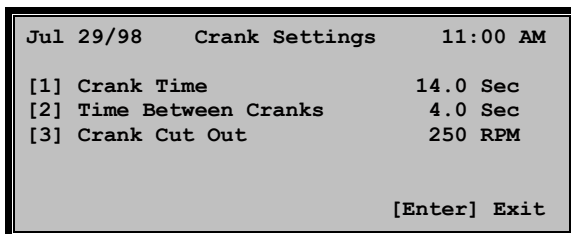

Figure 2-28
- (b) The CRANK SETTINGS screen (Figure 2-28) will be displayed.